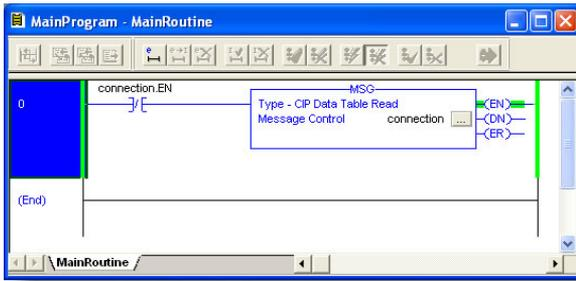

Figure 106: Complete Program
**6) The program is now complete. Refer to Figure 106.**